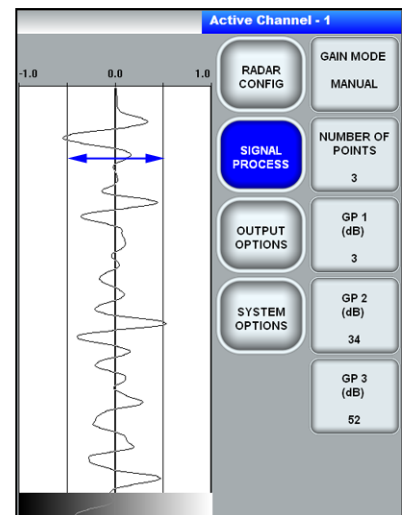

Figure 15: Appropriate Gain.
- **For Auto Gain:** Make sure that your antenna is on your survey surface and check the o-scope view on the screen. It should look like Figure 15. The scan line should not exceed the screen width nor should it be “flatlined.” If it doesn’t look like Figure 15, click the “INIT” button at the bottom of the screen and it will re-initialize the gains.
- **For Manual Gain:** Set the Gain Mode to “Manual,” select the desired number of points, and add/subtract gain from those points until the signal looks similar to the one in Figure 15.